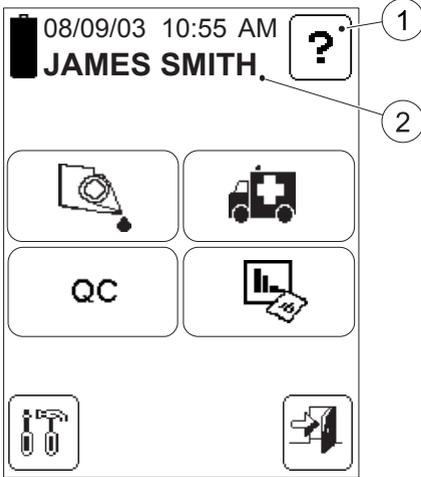

FIGURE 3-31
- c) If the requirement for Operator ID is set to “Not Used” (see section 4 *Settings*), the Main Menu will be displayed, *FIGURE 3-31*, without the Operator Name.
- b) When a valid Operator ID is entered, the Main Menu will be displayed, see *FIGURE 3-31*.
FIGURE 3-31 is referred to as the *Main Menu*. It is displayed as the Startup Image for all Tests, Setting procedures, etc.